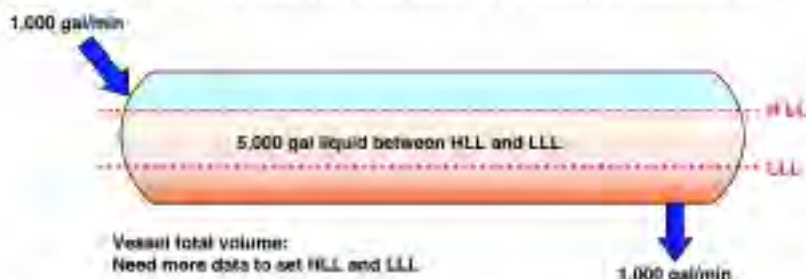

FIGURE 2. Method 2 recommends sizing based on residence time between the high-level limit (HLL) and low-level limit (LLL) of operation
curve (enthalpy versus temperature) as shown in Figure 2.
This enthalpy specifies Point B on the graph of Figure 2, and is the starting point of the water operating line.
This enthalpy specifies Point A on the graph of Figure 2 and is the starting point of the air operating line.
4. Take incremental change in temperature (say 0.5 or 1.0) up to the hot water temperature and calculate the h' and h_a . The ending points are shown as C and D in Figure 2 on the water operating and air operating line respectively.
sented in "Distillation Operation" [2]. This method is presented specifically for distillation reflux drums, but is easily adapted for sizing other types of process vessels by adjusting the residence time requirement to suit the process intent. Rather than assuming the vessel is operating at half-full, it recommends sizing based on the residence time between the high- and low-level operating limits. Method 2 is slightly more complex than Method 1 because it also requires knowledge of the vessel operating limits in order to determine the total vessel volume. Figure 2 depicts an example of vessel sizing on this basis, again using a 1,000 gal/min flowrate and a 5-min residence time.